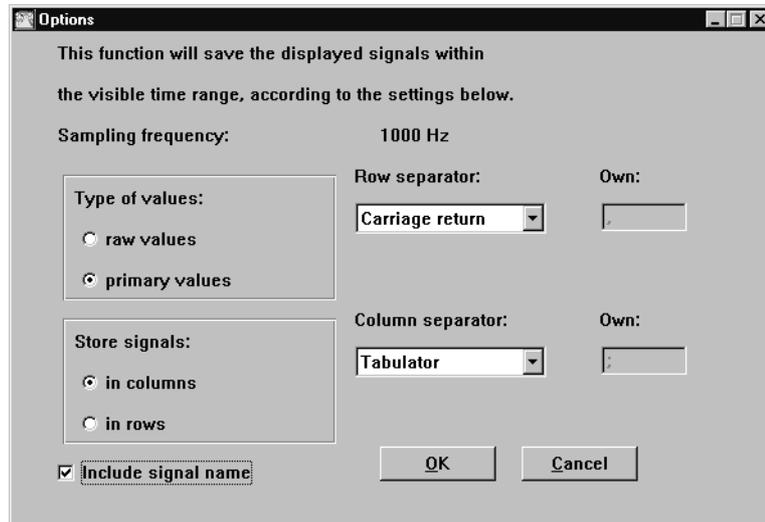

Fig. 15 The Save As - options dialogue box.
- 14 Confirm by pressing OK. The Save As - options dialogue box will be shown, see Fig. 15.